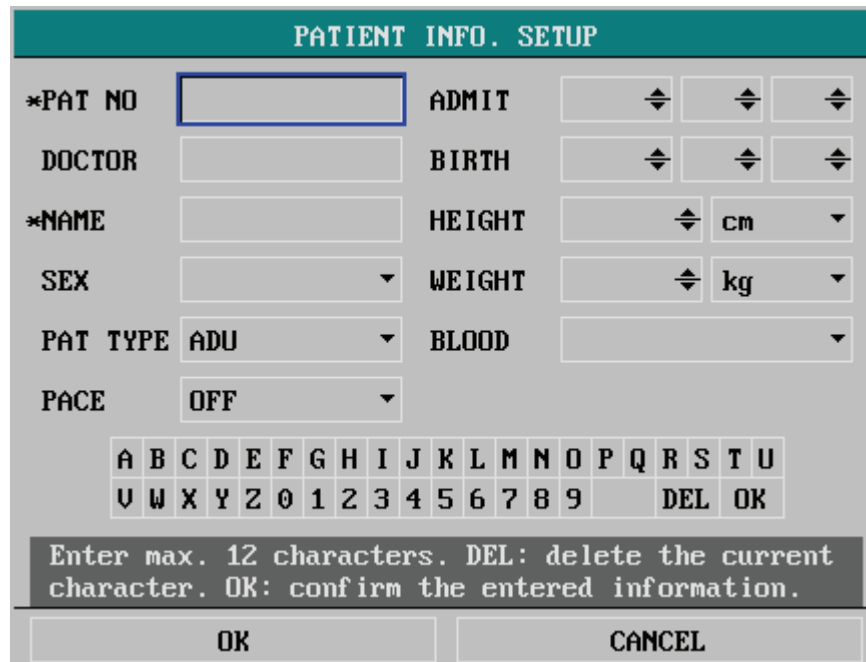

Figure 4-3 Patient Information Setup
2. The menu as shown in *Figure 4-3* opens.